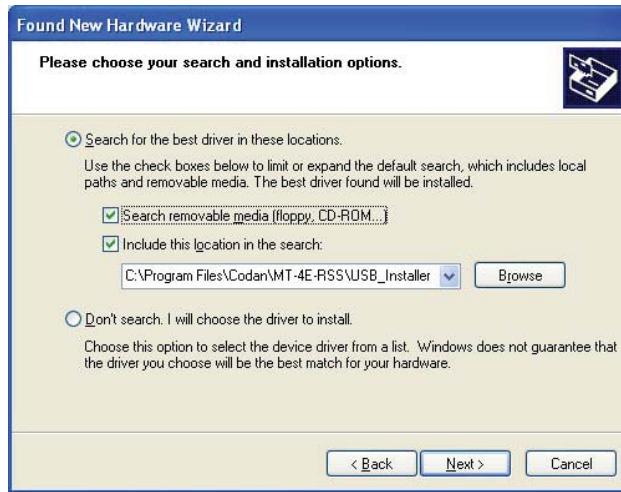

Figure 7: Found New Hardware Wizard 3
8. If the software installation CD is in your CD Drive, select “Search removable media (floppy, CD-ROM...)”. If the software installation CD is not available, select, “Include this location in the search”, as shown in Figure 7. Click on “Browse”, and select the directory where the MT-4E RSS (or Multiple Link or UIC) software was installed. Click on “OK” to close the folder browser window.